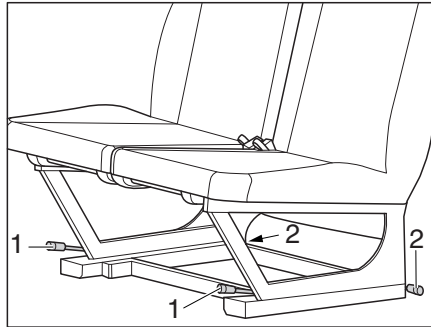

Fig. 10 Installing the bench seat
- Pull out both rear locking levers (Fig. 10, 2) and block them with locking bolts.
- Move both front locking levers (Fig. 10, 1) to the upper position.
- Press the front locking lever (Fig. 10, 1) downwards.
- Check that the front locking levers (Fig. 10, 1) engage in the safety lever (Fig. 10, 2).
- ▷ Ensure that both front locking levers (Fig. 10, 1) are fully locked.